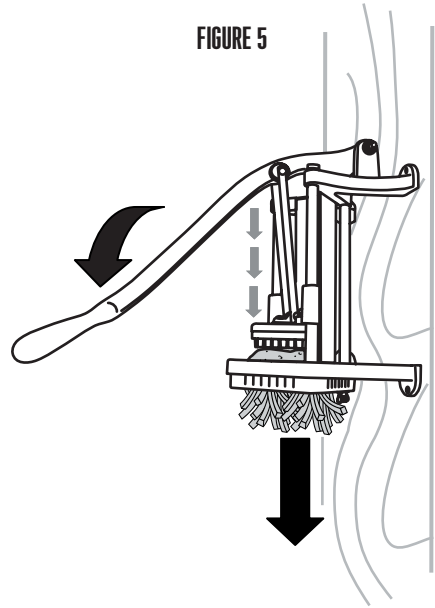

FIGURE 5
3. Push down on the handle and the potato will be forced out through the bottom of the cutting plate (**FIGURE 5**).